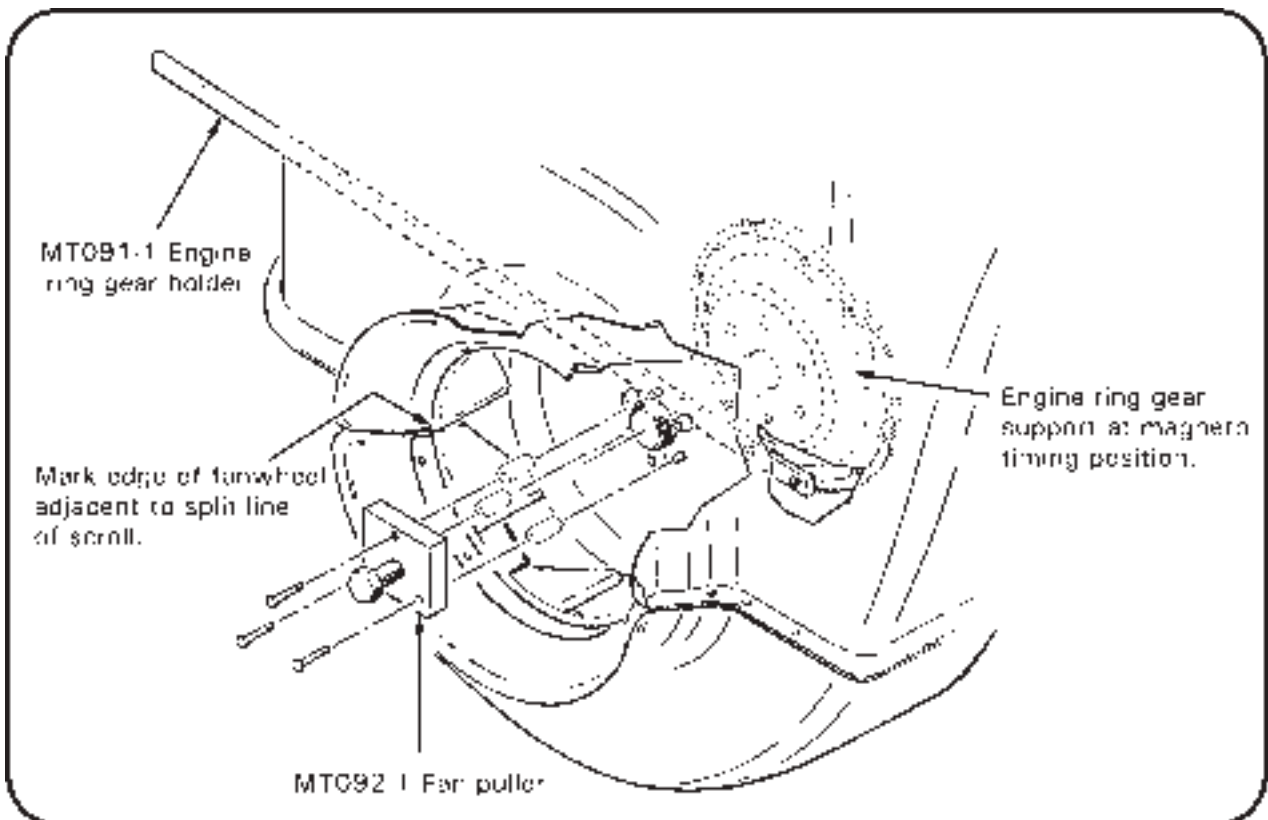

FIGURE 6-3B PULLING FANWHEEL
If same fanwheel is to be reinstalled then orient starter ring gear support to magneto timing position and mark fanwheel at split line of scroll; this will minimize need for new balance weights. See Figure 6-3B.
- b) Remove safety wire and roll pin from fanwheel retaining nut. Refer to Figure 6-3B. Secure MT091-1 engine ring gear holding tool to ring gear support and hold ring gear stationary. Remove fanwheel retaining nut.
- d) See Figure 6-3B. Ensure MT092-1 fanwheel puller tool's large center bolt is **unscrewed** sufficiently so it will not contact fan shaft. Attach fanwheel puller to MT092-3 spacer nuts.